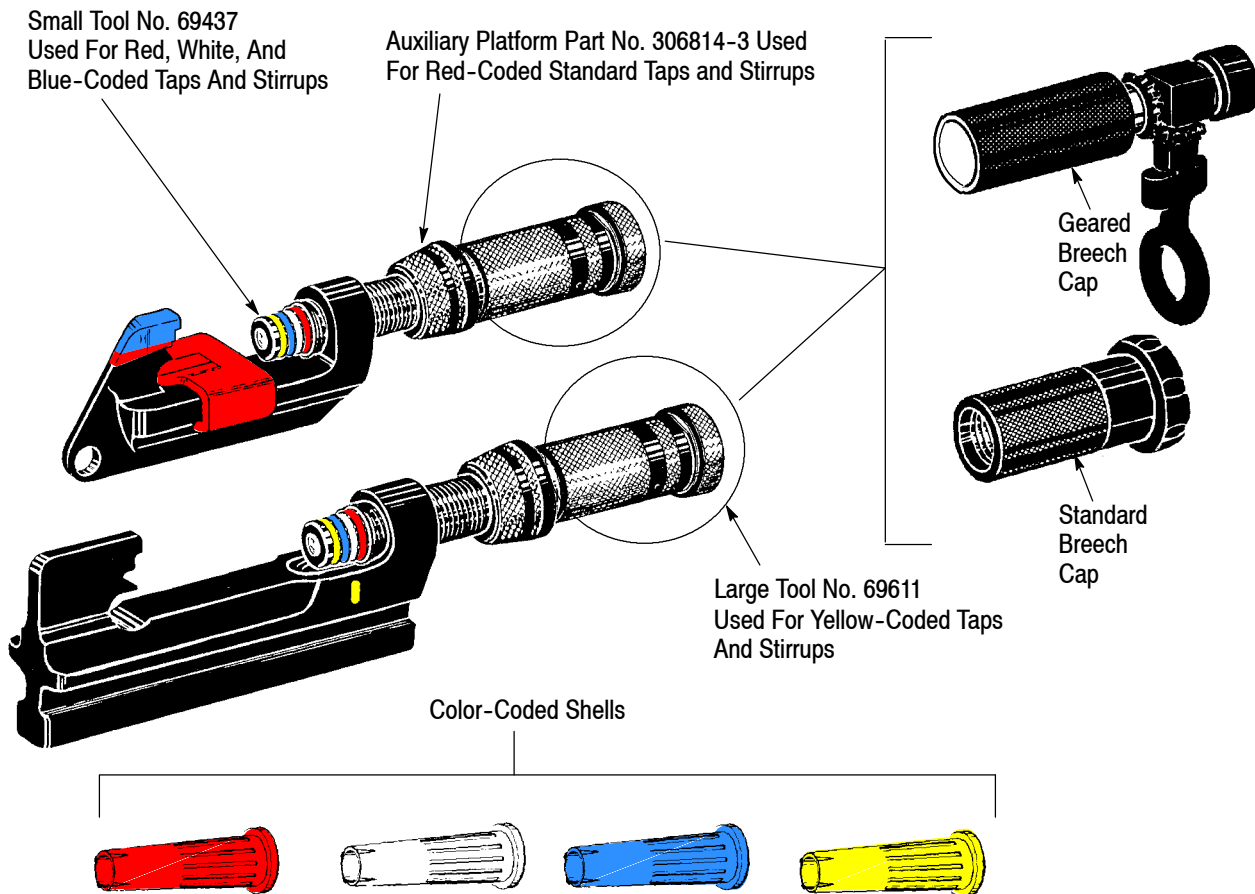
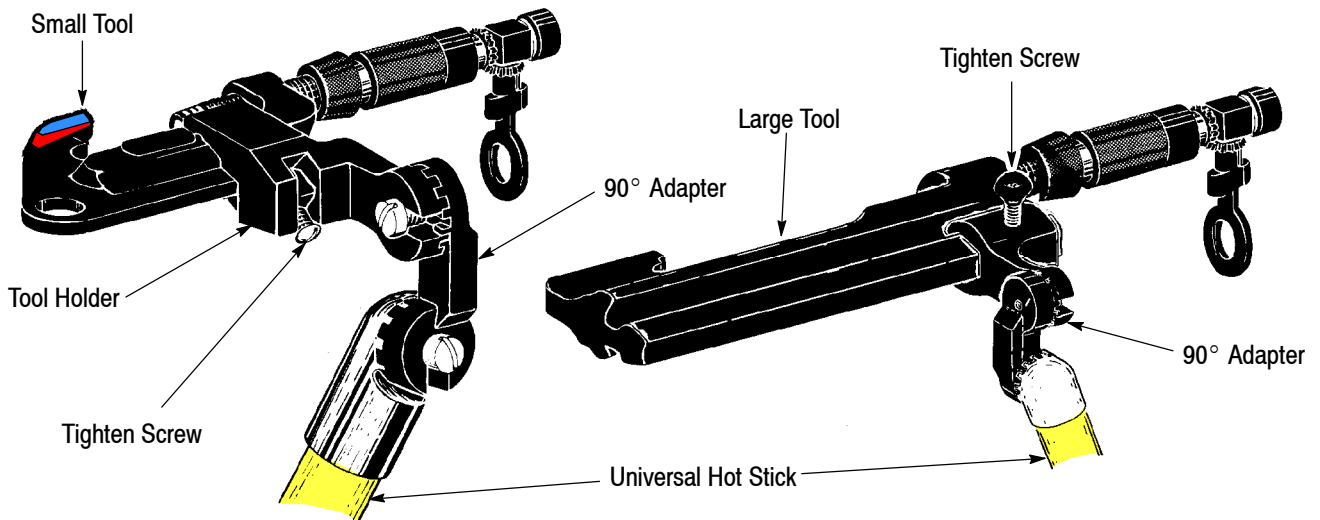

Figure 5
Figure 6
The use of AMPACT tools reduces the time and effort required to tap a power line. The tools are safe to use because all the action takes place *within* the tools. Two sizes of AMPACT tools are used (see Figure 5). The small tool (Tool No. 69437) uses red, white or blue shells, and the large tool (Tool No. 69611) uses yellow shells. Shells are colored to match the color-code of the tap or stirrup with which they are to be used.
Both small and large AMPACT tools are adapted for hot stick application by replacing the standard breech cap assembly with the geared breech cap assembly (Figure 5) and by using the small or large tool holder. The 90° adapter may be installed between the tool holder and the hot stick, if this will result in a better working position for the lineman. See Figure 6. Uses for the "C" and wedge holder, piggyback clamps, hammer, wire brush, and take-off clips are described in hot stick application procedures to follow.
2. Remove standard breech cap assembly (Figure 5) from the power unit of tool and install the geared breech cap assembly provided with the hot stick.
3. If desired, attach the universal hot stick to the tool holder, connecting a 90° adapter between the tool holder and the hot stick. See Figure 6.